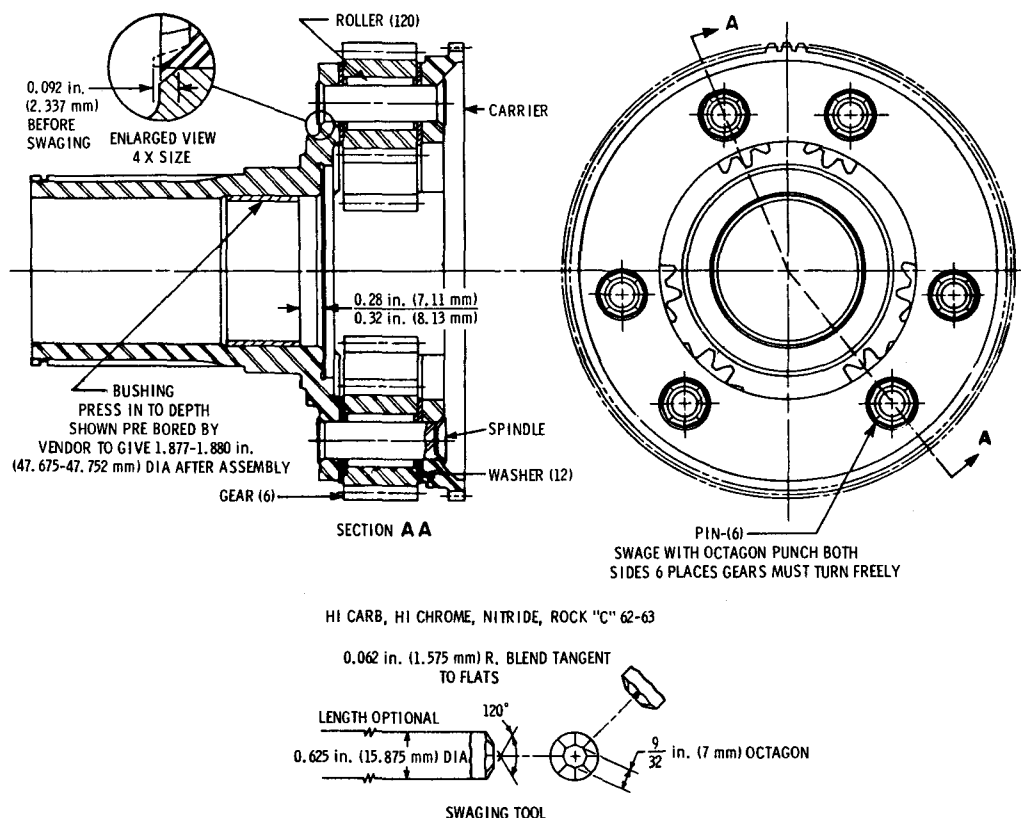

Fig. 6-19. Forward planetary carrier assembly—cross section
a. Disassembly (B, foldout 9, and fig. 6-19)
(1) Position the carrier assembly 5 (B, foldout 9), hub upward, on a drill press table.
(2) Using a 1/2-inch (12.7 mm) twist drill, centered accurately, drill the end of each pinion pin 11 to weaken the staking.
c. Assembly (B, foldout 9, and fig. 6-19)
(1) If bushing 7 (B, foldout 9) was removed, press a new bushing into the carrier to the 0.28 to 0.32 in. (7.11 to 8.13 mm) dimension shown in fig. 6-19.
(2) Make a pinion alining tool by grinding or turning a chamfer on one end of a 6-inch (152.4 mm) length of 1/2-inch (12.7 mm) dia, cold-rolled steel.
(3) Coat the bore of each pinion 9 (B, foldout 9) with oil-soluble grease.
(4) Holding the alining tool in one hand, install a thrust washer 10 and then a pinion 9 onto the alining tool.
(9) Repeat procedures (4) through (8), above, for the remaining pinion groups. Aline the pinion groups in the carrier by inserting the alining tool in each spindle bore.
(10) Press new spindles through the carrier and pinions until they project 0.092 inch (2.337 mm) from the inner ends of the countersinks in the pinion bores at the rear of the carrier (see inset detail of fig. 6-19).
(11) Stake both ends of the spindles into the countersinks of the carrier. Refer to fig. 6-19 for details of fabricating the staking punch.
(12) Install seals 14 and 16 (and expanders 21 and 22 on later models) onto forward piston 15. Refer to paragraph 6-16c(12) through (14), above, for piston seal and expander installation.